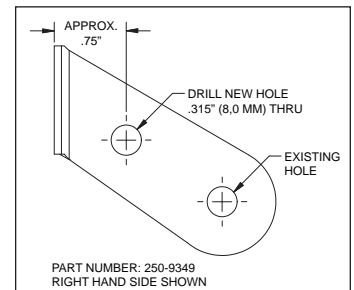

Figure 4. Bracket Modification CRZ Only
- **NOTE:** CRZ only. A new .315" hole needs to be drilled in the hose bracket (P/N 250-9349/50) as shown in Figure 4.